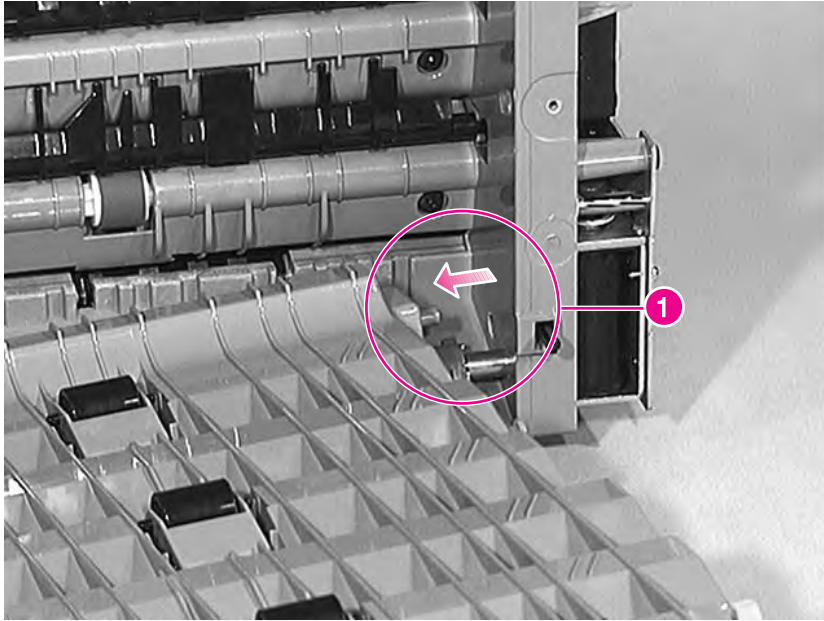

Figure 6-128 Right Door Assembly (Paper Path Cover) (4 of 5)
- 3 Release the plastic pin on the right end, and remove the paper path cover as shown in figure 6-128 (callout 1).